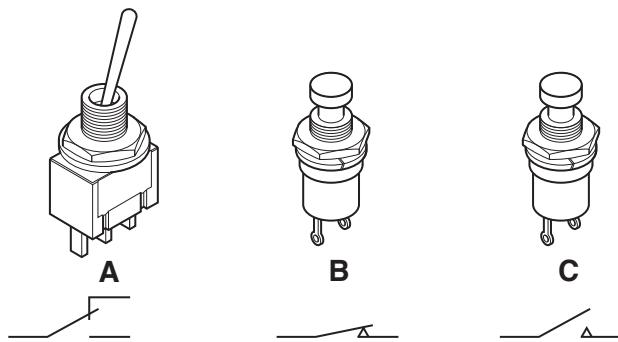

Fig. 1
- 1 (a)** Fig. 1 shows three switches and their circuit symbols.
Use the information in Fig. 1 to complete the table below.